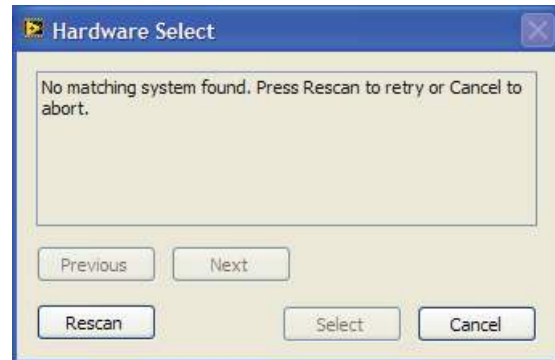

Figure 9. Pop-Up Window Error
2. If the SDP board is not connected to the USB port when the software is launched, a connectivity error displays (see Figure 9). Simply connect the evaluation board to the USB port of the PC, wait a few seconds, click **Rescan**, and follow the instructions.